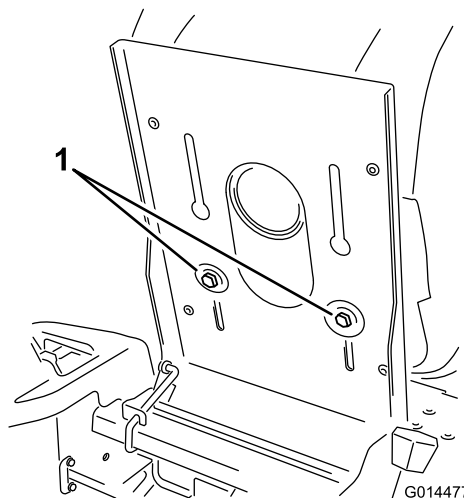

Figure 21
1. Raise the seat and loosen the adjustment bolts just enough that seat can move (Figure 21).